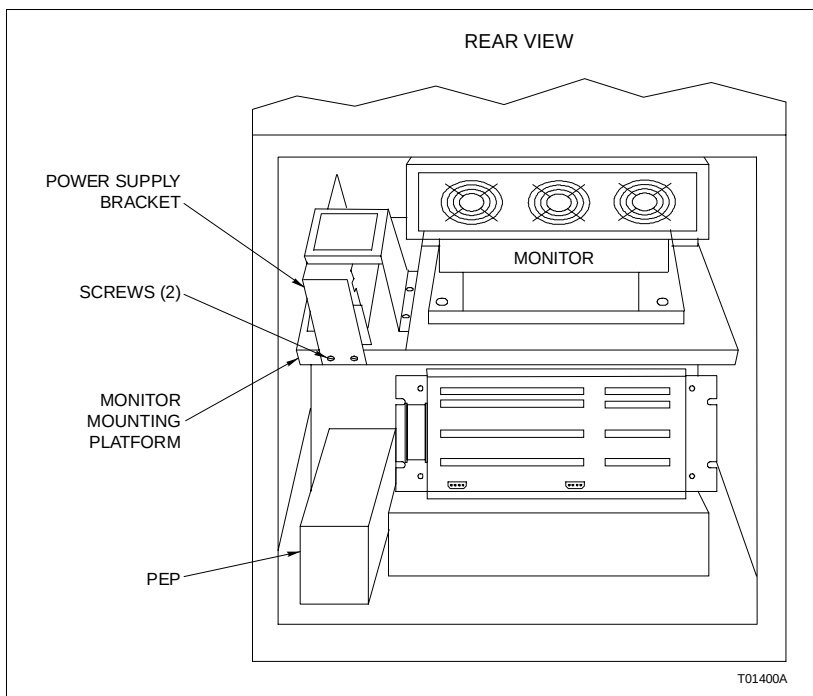

Figure PR24-2. Console Model Power Supply Removal
- ☐ 4. Use the bladed screwdriver to remove the two screws that secure the power supply bracket to the monitor mounting platform (Fig PR24-2).